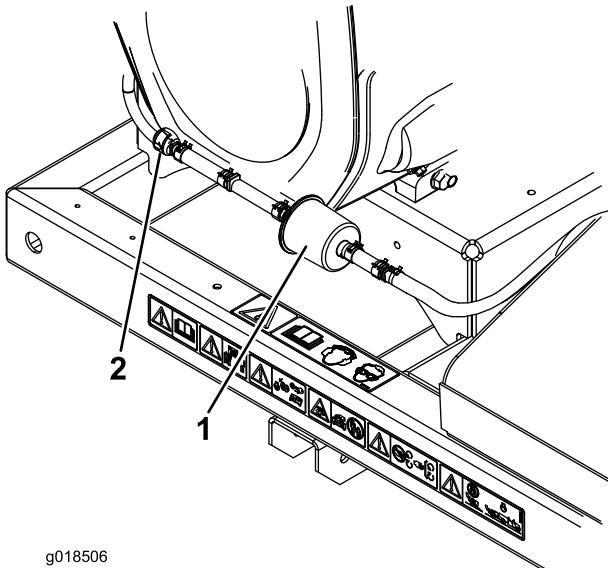

Figure 39
- Move the spring-type hose clamps on both sides of the carbon canister purge-line filter away from the filter (Figure 39).
- Remove and discard the carbon filter (Figure 39).
- Install a new filter into the hose with the arrow on the filter pointing toward the check valve and secure it with the hose clamps (Figure 39).